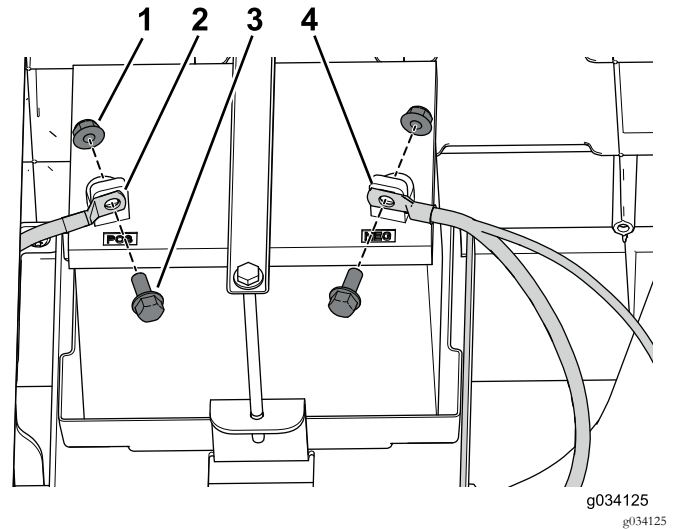

Figure 48
- Use the bolt and nut to secure the positive (+) cable to the battery terminal (Figure 48).
- Use the bolt and nut to secure the negative (-) cable to the battery terminal (Figure 48).